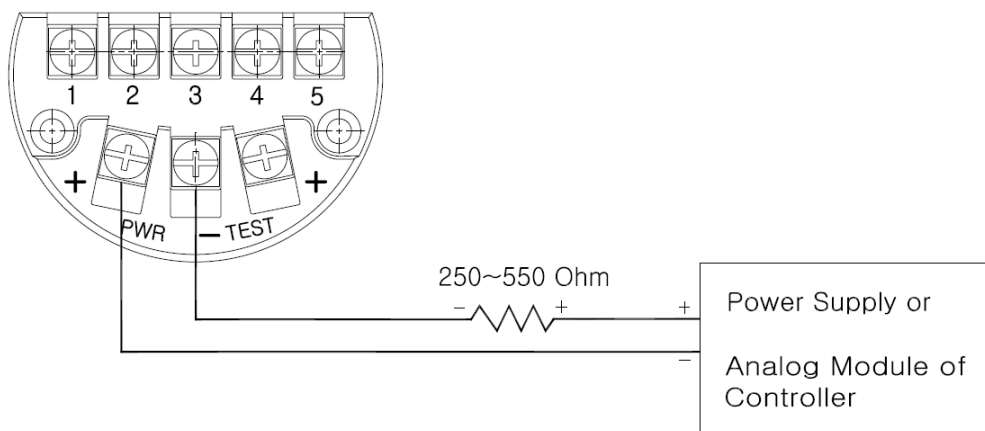

Figure 4-2. Connection of Current loop
(7) You have to connect 250~600 ohm Loop Resistor in Current Loop(between Power Supply and Transmitter) for HART Communication HART. Following Figure 4-2 is about connection of Current Loop.